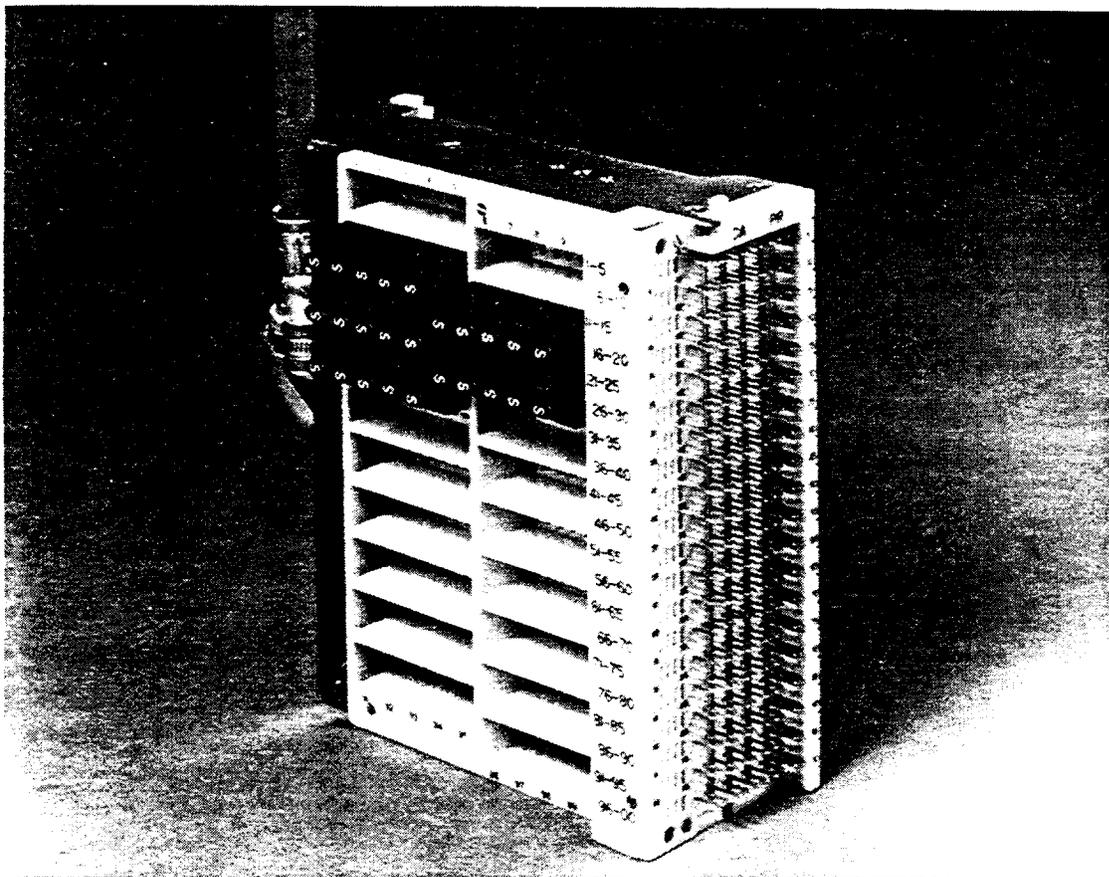

Figure 26. Front View 310L/ML UL Listed Connector
**7.02** The 310L- and 310ML-Type connectors conform with all the characteristics of the 310/310M-Type connectors as specified in paragraphs 2.01 through 2.05 of this practice. Although most outward appearances are identical (Figure 26), there are several physical characteristics which are unique to these products.